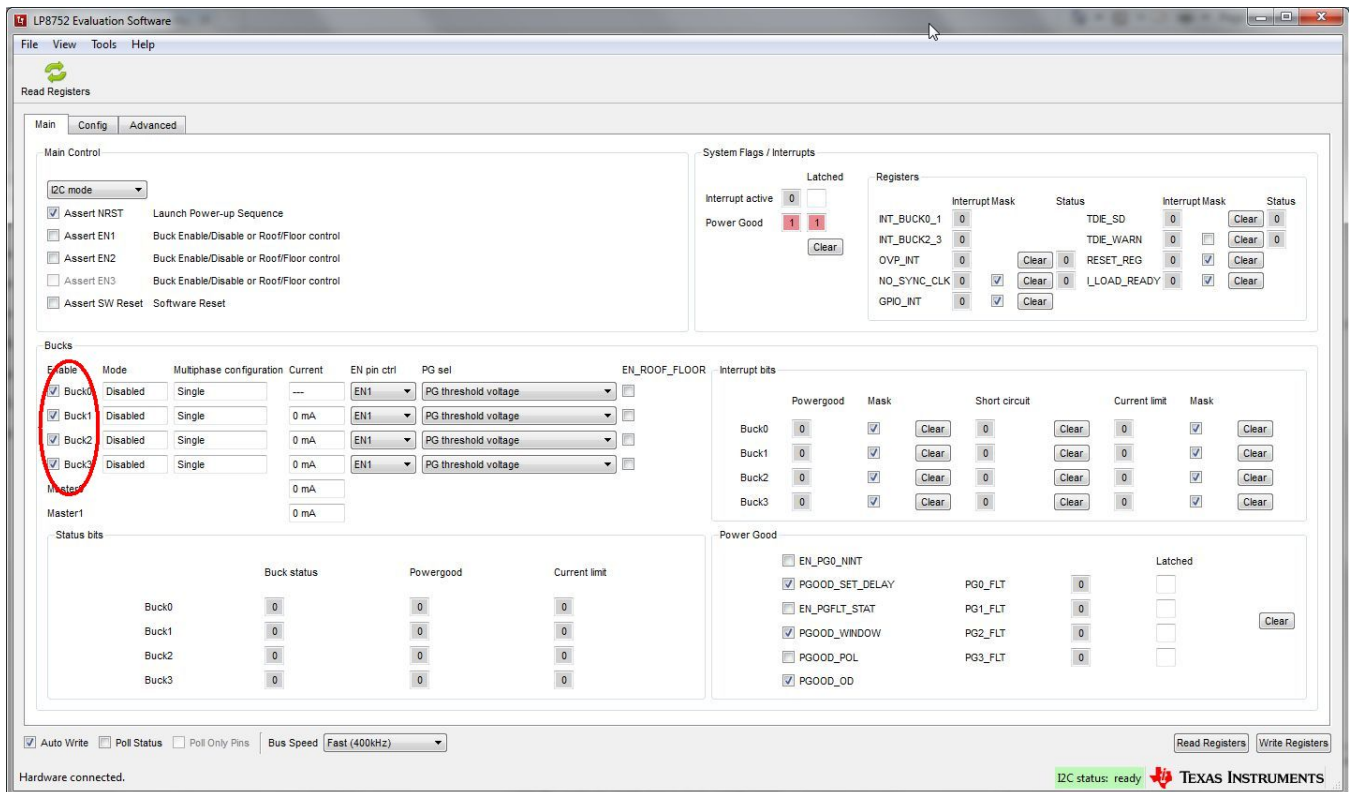

Figure 9. BUCK0, BUCK1, BUCK2 and BUCK3 Enabled
3. Check if the BUCKs are enabled. In this example all BUCKs enable bits are set to '1' by default (see Figure 9).